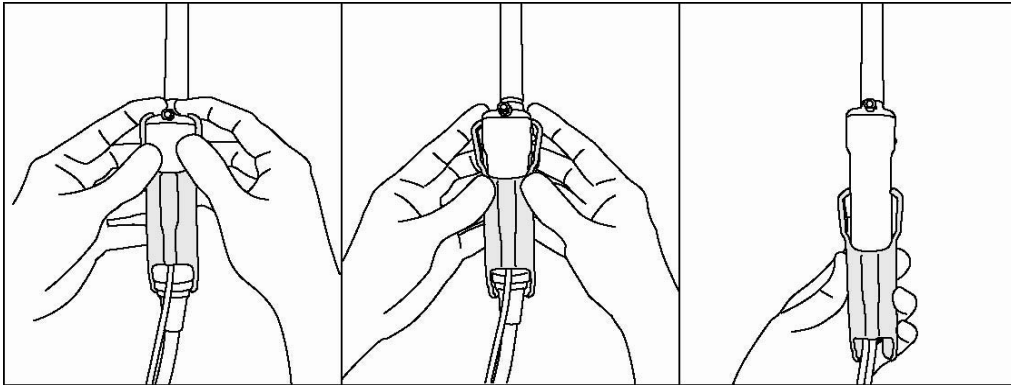

Fig.10 How to release the Magnetic sensor attachment from the probe
- 1) Release the Magnetic sensor attachment from the probe as shown in Fig.10.